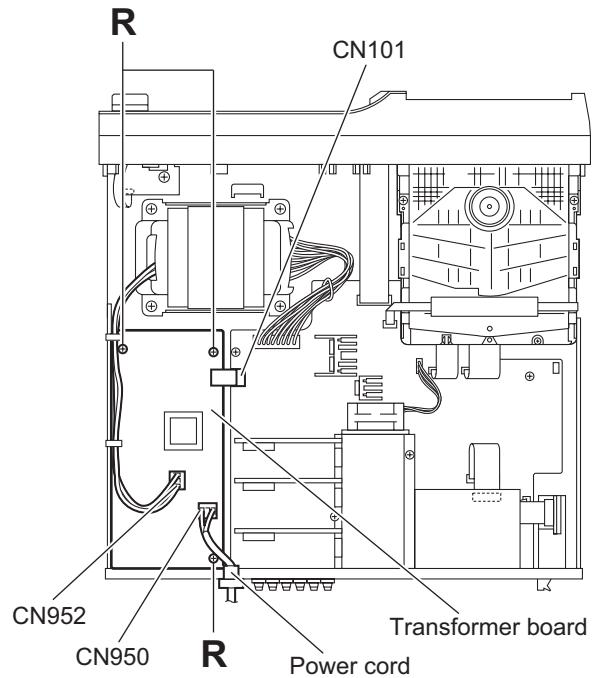

Fig.16
3.1.10 Removing the transformer board (See Fig.16)